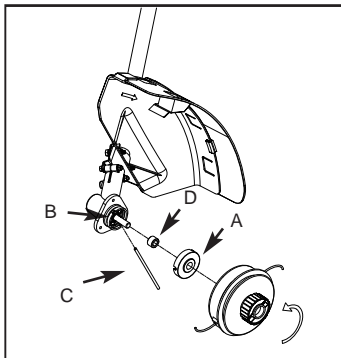

Fig. 4
1. Install spline sleeve (D) and gear collar (A) in turn ensuring that collar spacer is in place (Fig. 4).
2. Insert holding pin (C) and thread cutting head onto shaft. Tighten cutting head by hand only (Fig. 4)